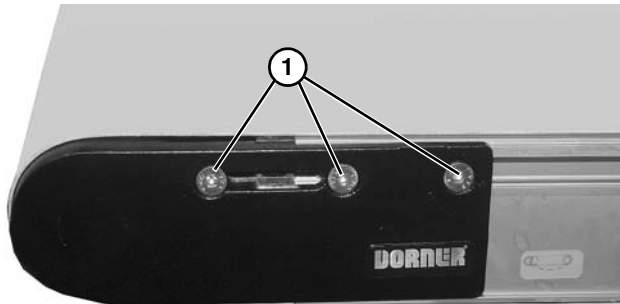

Figure 74
2. Remove three fastening screws (**Figure 74, item 1**).